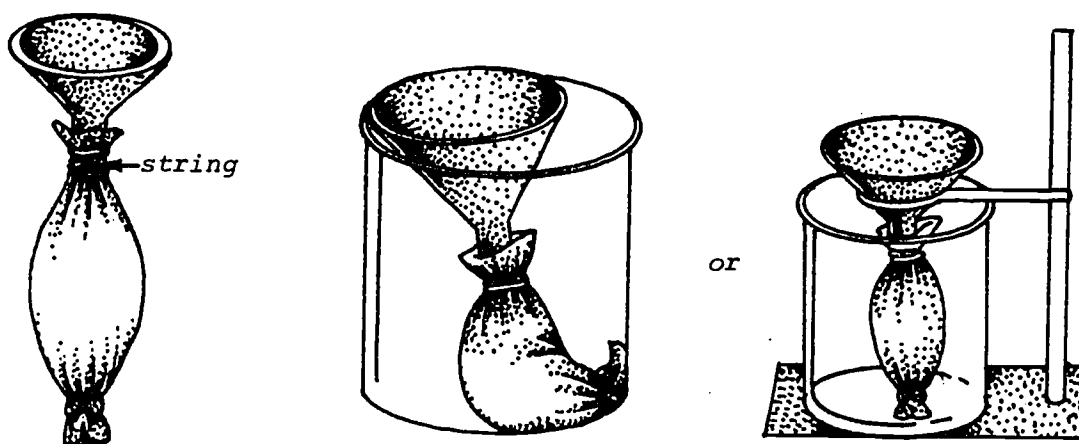

FIGURE 2: *Attaching and suspending the funnel.*
3. Place a funnel into the open end of each membrane sac and tie the membrane securely to the funnel with a length of string (see Figure 2). Set each funnel and its membrane sac in a separate beaker, or suspend them from a ring-stand, as shown in Figure 2.